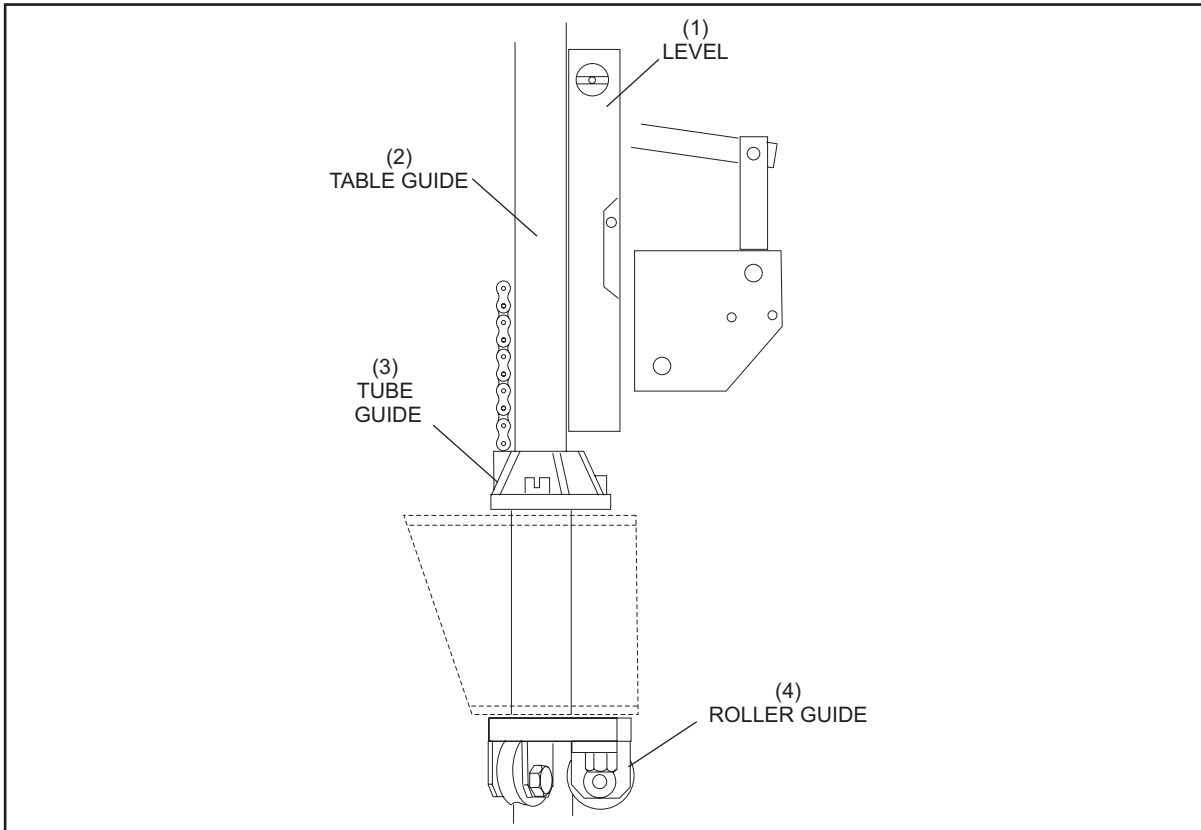
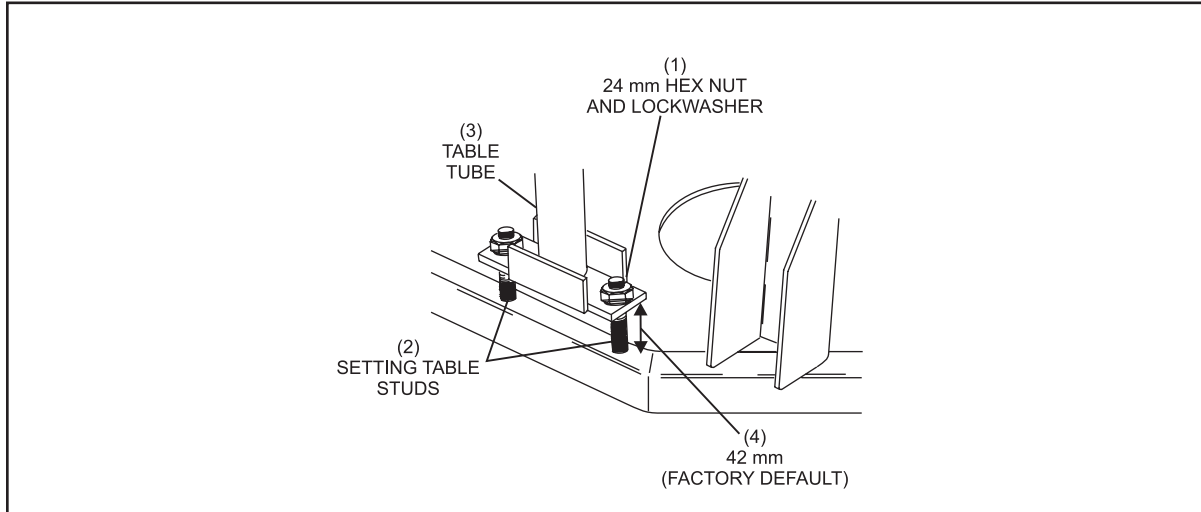

Figure 5-26. Table Rack Guide Rollers
Figure 5-27. Setting Table Studs
1. With the table at home position check the front, back and side to side position of the table tube using a level. Refer to *Figure 5-26*. If adjustment is needed, loosen the 24 mm hex nuts on the setting table studs. Refer to *Figure 5-27*. Adjust the roller guides and bearing block as needed to obtain a level tube guide.
- To adjust, lower or raise the large hex nuts (24 mm) socket and drive required) on the setting table's studs until the table is level. Refer to *Figure 5-27*.